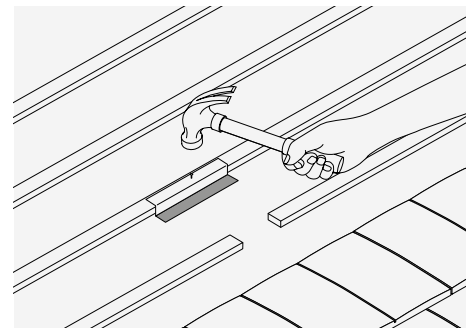

Fig. 5 - Cut and nail back underlay
- 4 Nail flap to top of tiling batten (Fig. 5).